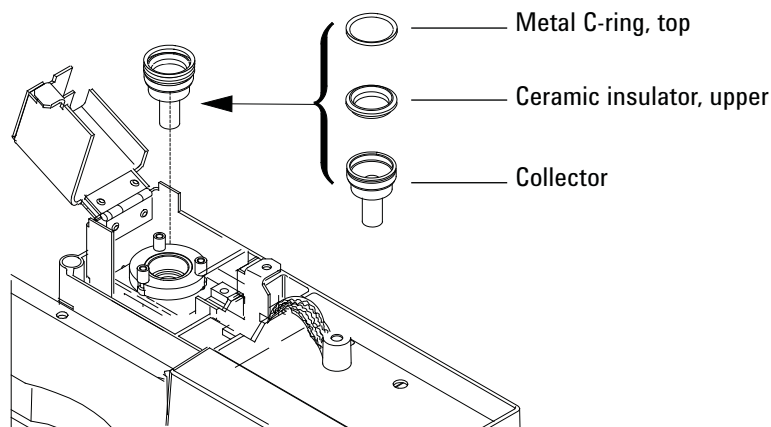

Figure 7 NPD collector, upper insulator, and metal C-ring
- 18 Install the bottom metal C-ring, the lower ceramic insulator, and the top metal C-ring. See Figure 7.